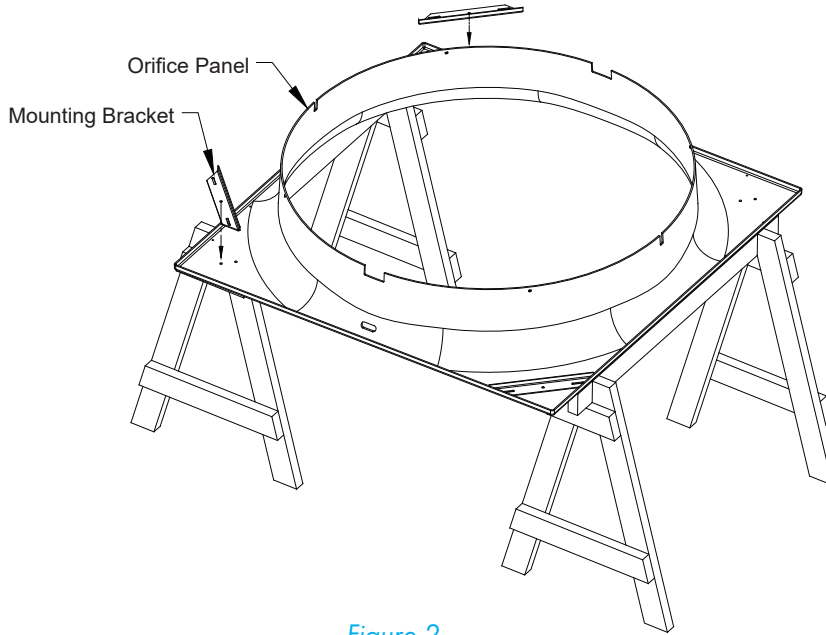

Figure 2
Place Orifice Panel on saw horses with the round orifice pointing up and place (1) Cone/Strut Mounting Bracket in each corner of the Orifice Panel. See Figure 2.